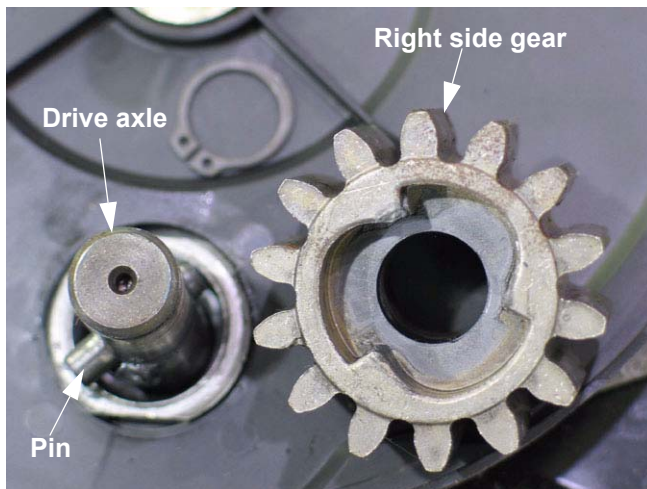

Figure 2.12
- 2.12. Remove retaining ring and gear to assure dowel pin is in place. See Figure 2.12.